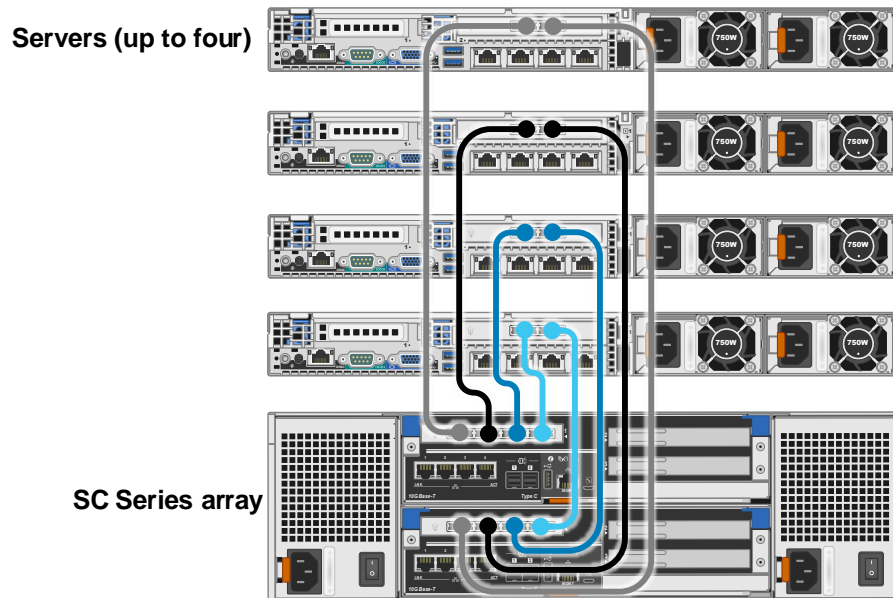

Figure 4 Cabling example with SAS FE
Select SC Series arrays support SAS front-end (FE) ports for MPIO connectivity. With SAS FE, host servers are connected directly to SAS ports on the SC Series array as shown in Figure 4. Host servers require a supported SAS host bus adapter (HBA) to connect directly to SC Series SAS FE ports. SAS FE is a simple, cost-effective transport option that is ideal for locations such as a branch office with a limited number of host servers (up to four host servers per SC Series array).